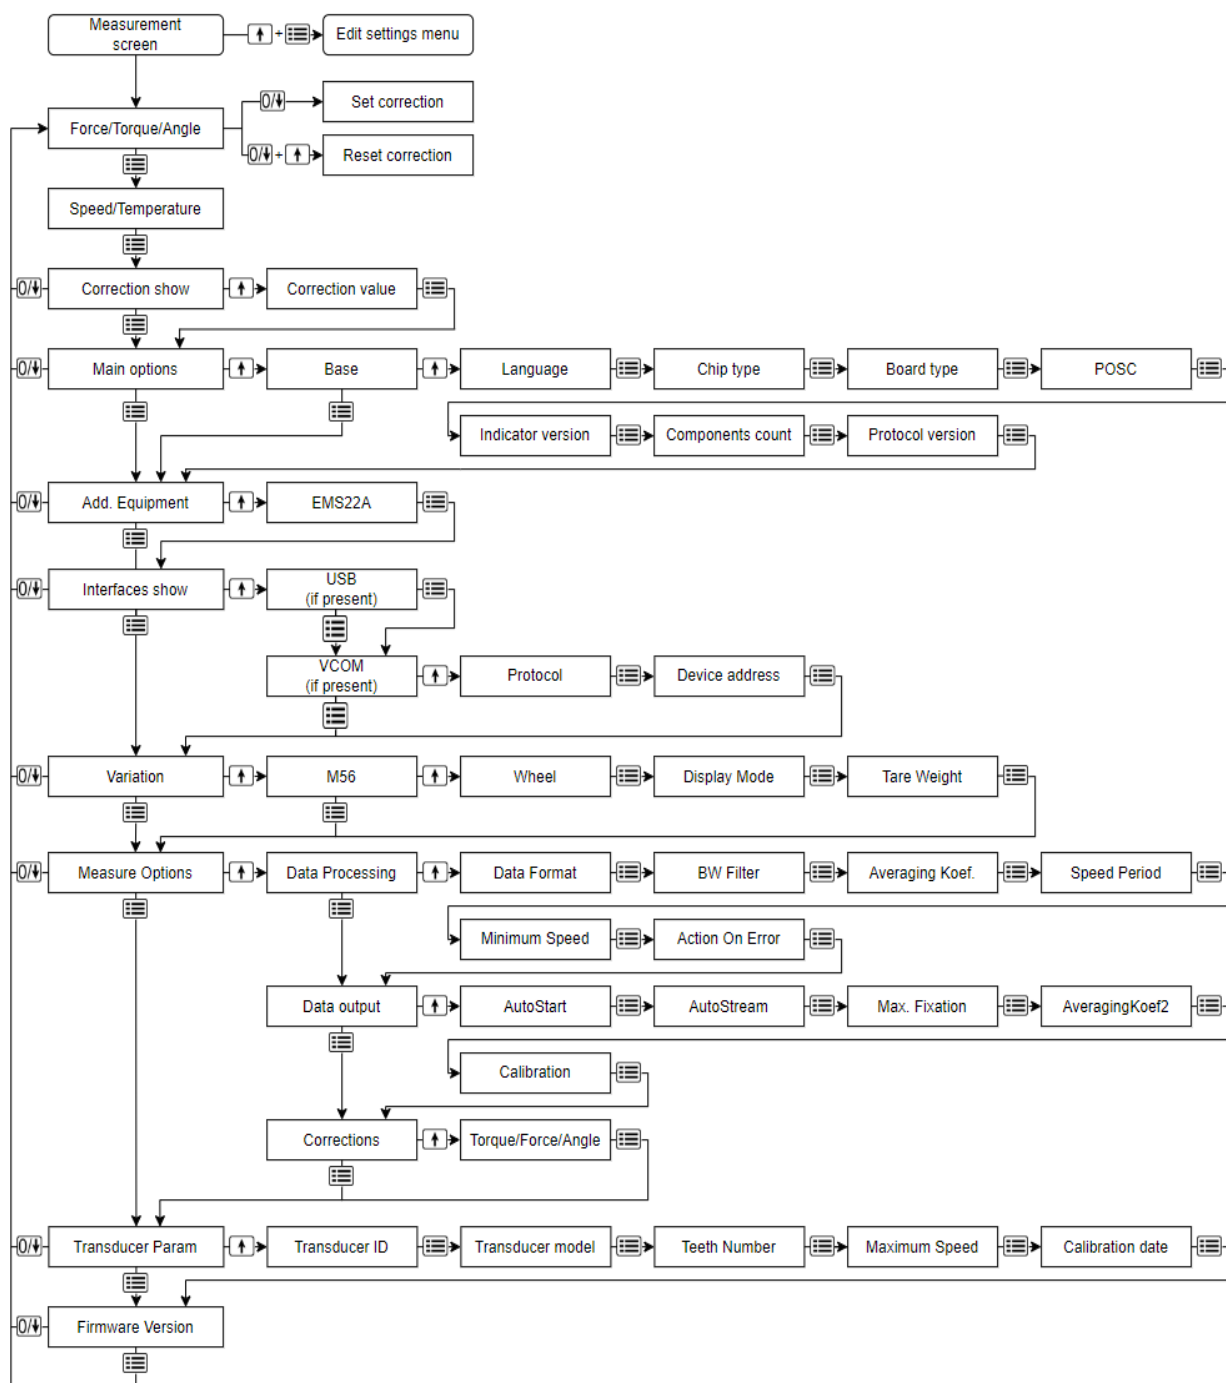

Fig.9. M56 indicator-decoder measurement view menu scheme
- Viewing menu navigation is done using    buttons. The viewing menu diagram is shown in Figure 9.